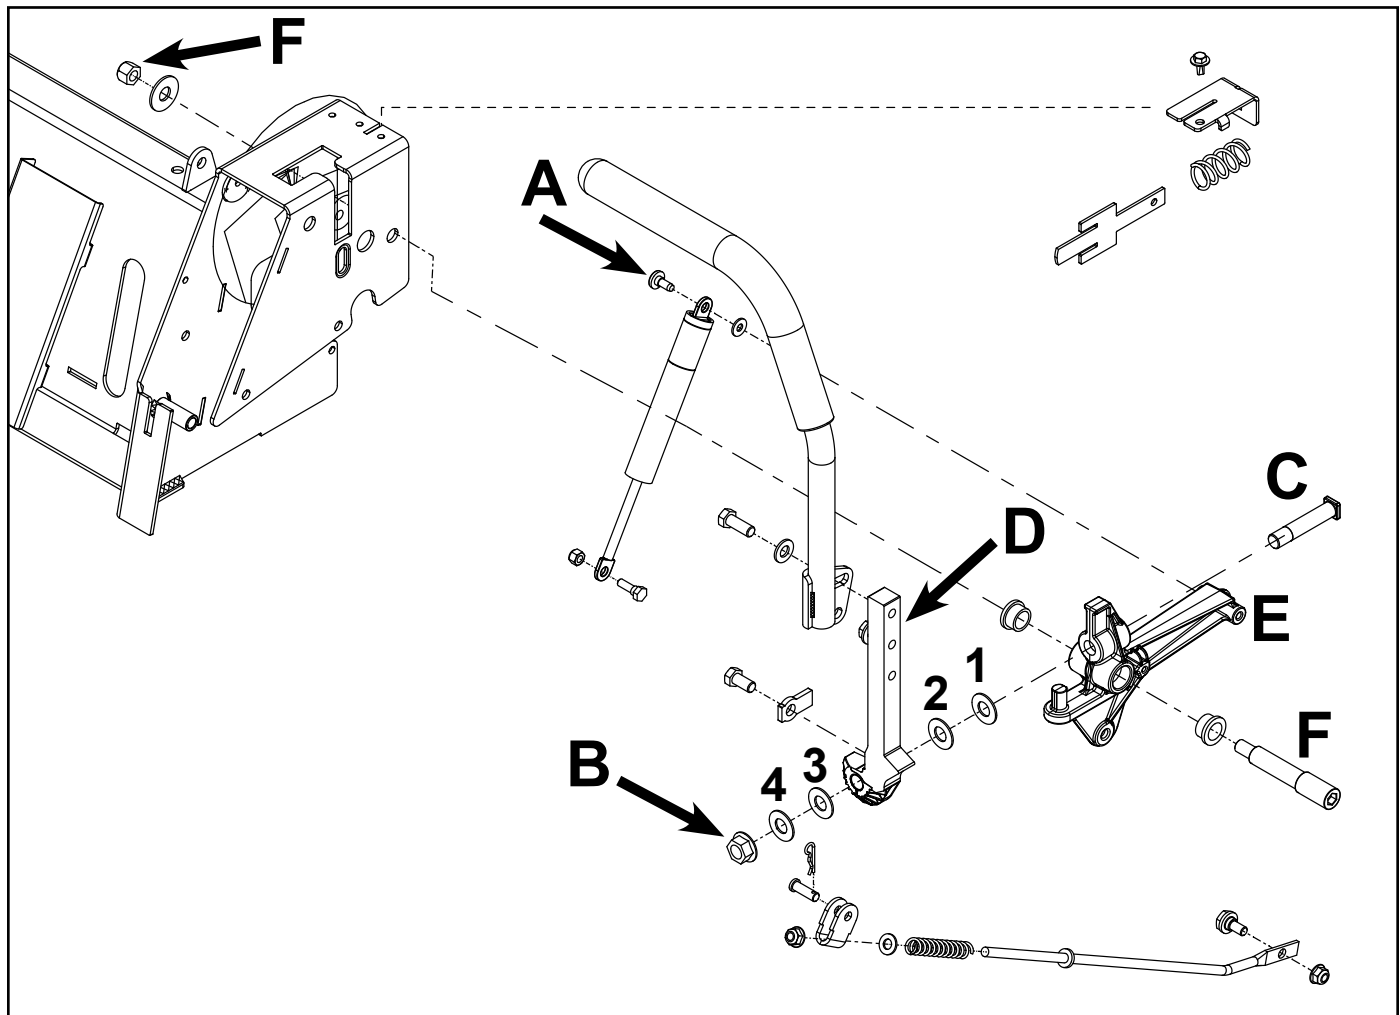

Fig. 036
6. Install the upper motion control damper washer and shoulder bolt (A) to the activator arm (E) and torque to specification - 7.5 ft-lbs. (10 Nm).
9. Perform the "Neutral Adjustment" and "Forward Tracking Adjustment" procedures on pages 5-4 and 5-5 (Fig. 036).